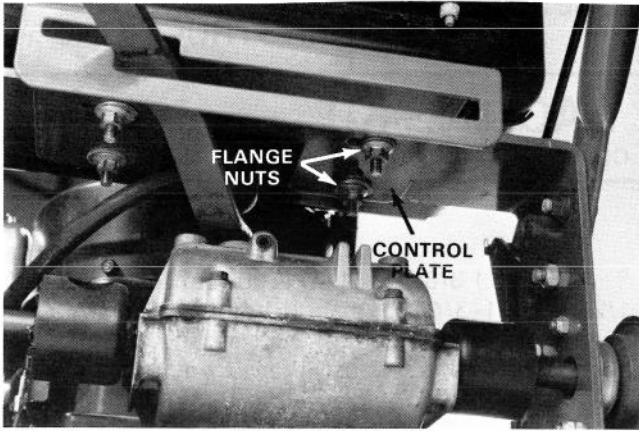

Figure 5
3. Remove (2) flange head locknuts securing right side of control plate to rear frame (Fig. 5).